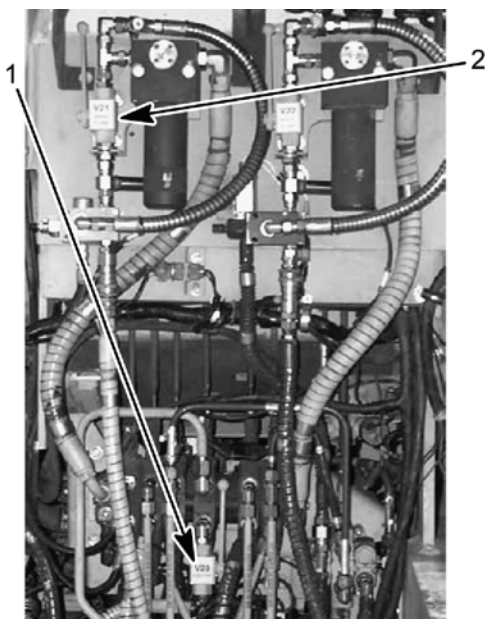

Figure 18. DCV Bank
- Ensure right main hydraulic pressure inhibit valve V21 (Figure 18, item 2) is fully opened.
- Disable ejector by manually closing the ejector inhibit ball valve V23 (Figure 18, item 1) on the DCV bank. Using LINE UP or LINE DOWN button (Figure 19, item 3), select V1 on the HDC display (Figure 19, item 2). Close V1 on the HDC display (Figure 19, item 2) by selecting the CHANGE POSITION button (Figure 19, item 4) on the HDC control box.
- Have assistant start engine and allow engine to idle (750-800 rpm). Slowly close right main hydraulic pressure inhibit valve V21 (Figure 18, item 2), until transducer T-3 hydraulic pressure on the HDC display (Figure 19, item 1) indicates 3,950-4,050 psi (27,235-27,925 kPa).
- Open right main hydraulic pressure inhibit valve V21 (Figure 18, item 2) fully.
- Open ejector inhibit ball valve V23 (Figure 18, item 1) on the DCV bank. Using LINE UP or LINE DOWN button (Figure 19, item 3), select V1 on the HDC display (Figure 19, item 2). Open V1 (Figure 19, item 2) on the HDC display by selecting the CHANGE POSITION button (Figure 19, item 4) on the HDC control box.